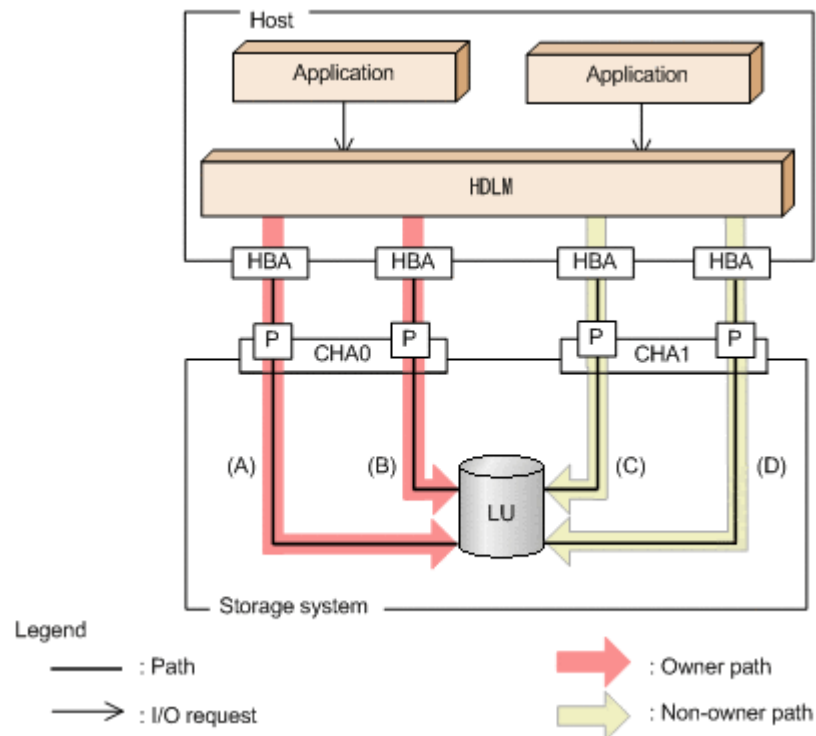

Figure 2-9 Load balancing when both owner paths and non-owner paths exist
For the example in Figure 2-9 Load balancing when both owner paths and non-owner paths exist on page 2-16, suppose that the paths (A) and (B) are owner paths, and the paths (C) and (D) are non-owner paths. When the LU is accessed, the load is balanced between the two paths A and B, which are both owner paths. When one of the paths (A) cannot be used, then the LU is accessed from the only other owner path (B). When both of the owner paths (A and B) cannot be used, the load is then balanced between two other, non-owner paths (C and D).